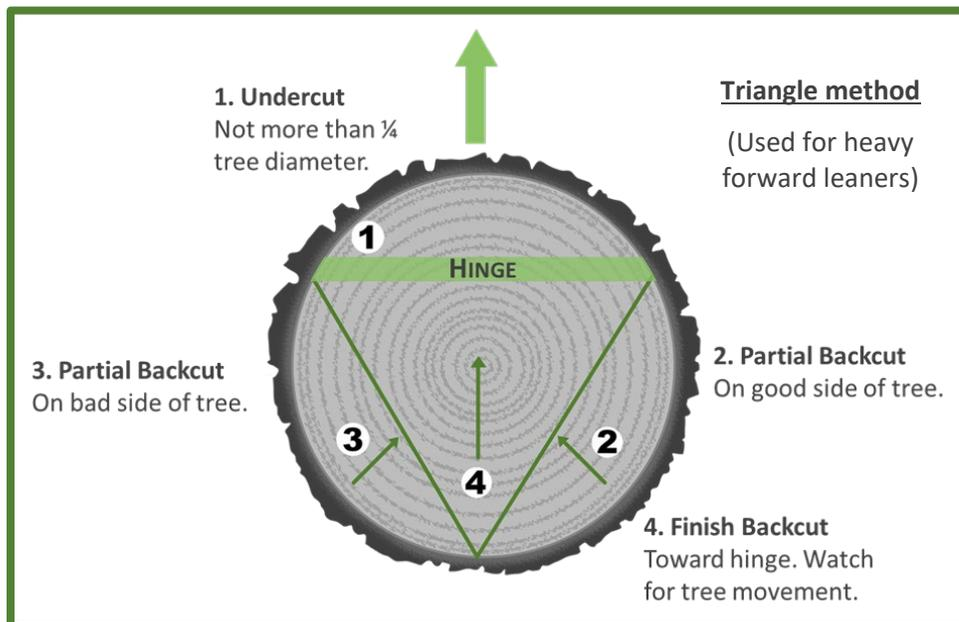

Figure 3.3.26—A triangle backcut.
- **Triangle backcut:** This is a special form of backcut that sawyers use when felling trees with significant forward calculated lean to help prevent the possibility of a barberchair (figure 3.3.26). The triangle backcut is effective in providing additional safety by allowing you to cut quickly to the desired hinge thickness. Because this backcut involves additional complexity and skill, you should master the conventional backcut first and then work with a qualified sawyer to master the triangle backcut.